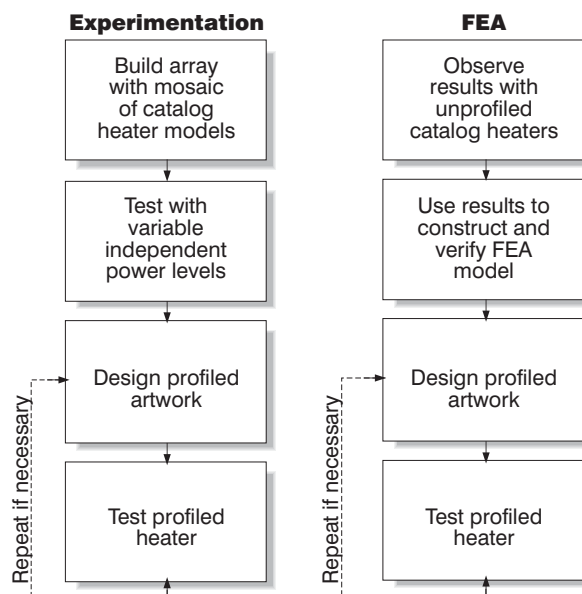

Figure 1: Alternative approaches to profiling heaters
- Assistance in laying out profiled heater patterns. Profiling is the addition of extra wattage in high-loss areas to equalize temperature. Higher wattage around the perimeter of a plate, for instance, will compensate for edge losses. One approach which employs FEA is to measure gradients produced by a non-profiled heater, then work backward from this data to develop a model for profiling (Figure 1).